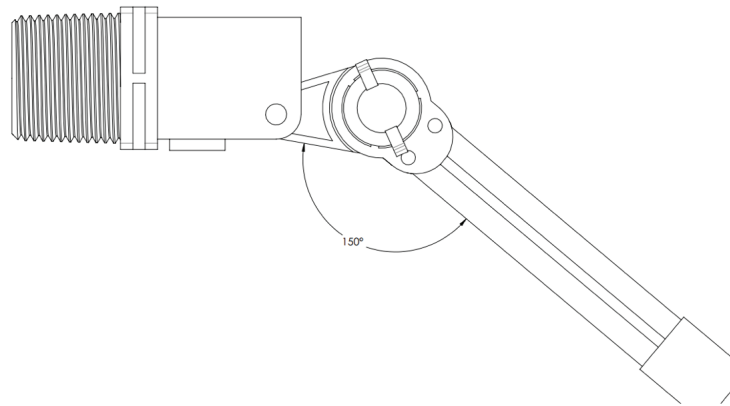
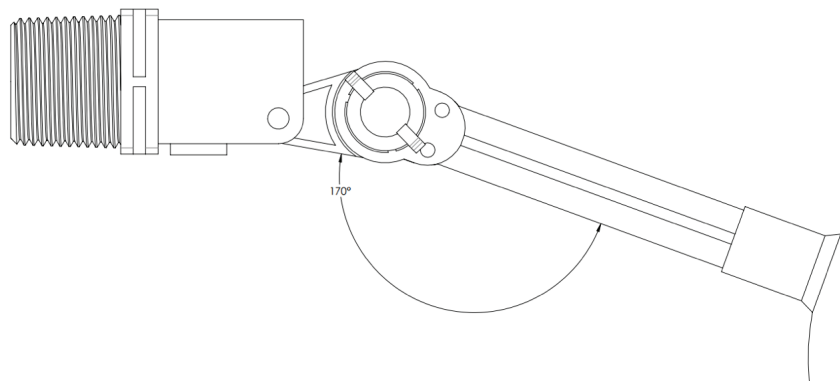

Figure 6: PACA12001A1 Float Angle Adjustment Template.
Figure 7: PACA20001A1, PACA40001A1, PACA65001A1 Float Angle Adjustment Template.
- Using the template provided with the document (Figures 6 and 7). Place Replacement Float over the template and adjust the Arm to the correct position based on the unit model. Use Figure 6 for PAC12001A1. Use Figure 7 for PACA20001A1, PACA40001A1 and PACA65001A1